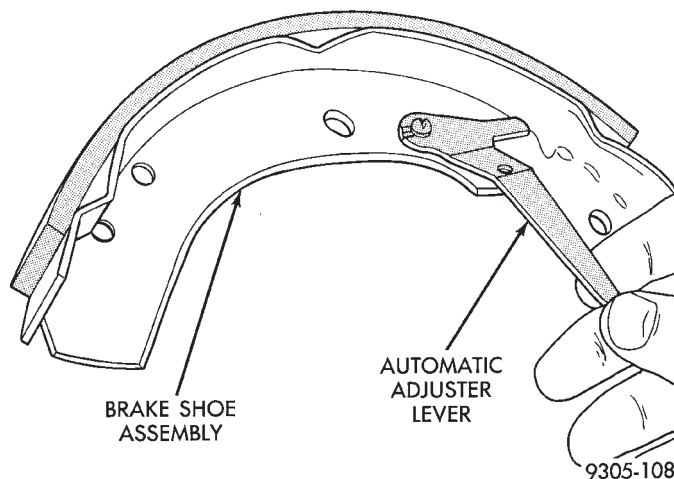

Fig. 13 Automatic Adjuster Lever
(10) Remove brake shoe automatic adjuster lever from leading brake shoe assembly (Fig. 13)